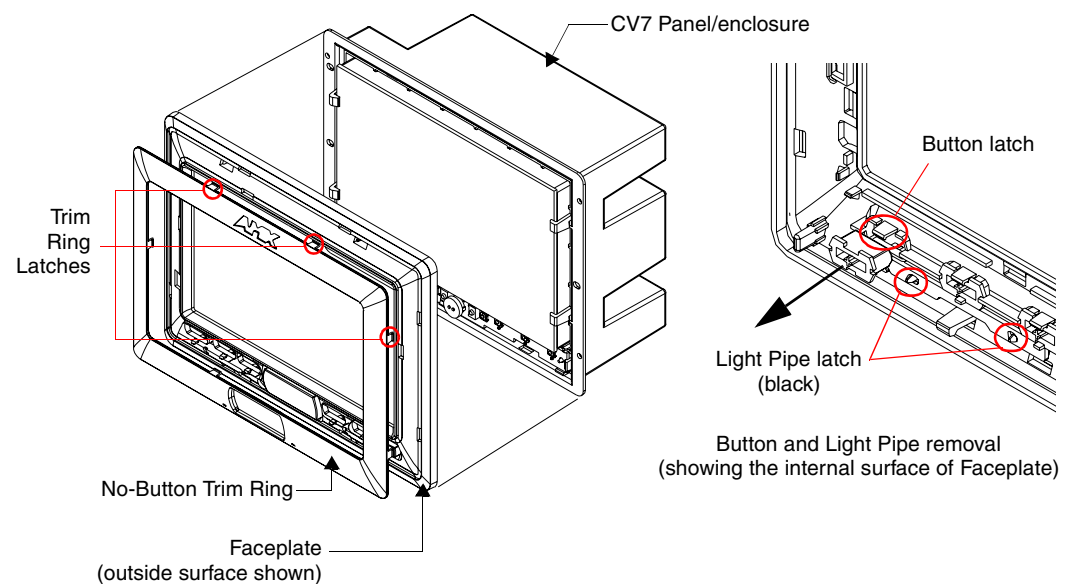

FIG. 34 Removing the No-Button Trim Ring
4. Gently tug along the edges of the No-Button Trim Ring and work your way around the edges to remove it from the Faceplate (FIG. 34).
5. From along the internal surface of the Faceplate, install the six buttons by firmly inserting them into the button openings until the Button latch secures the button in place (FIG. 34).